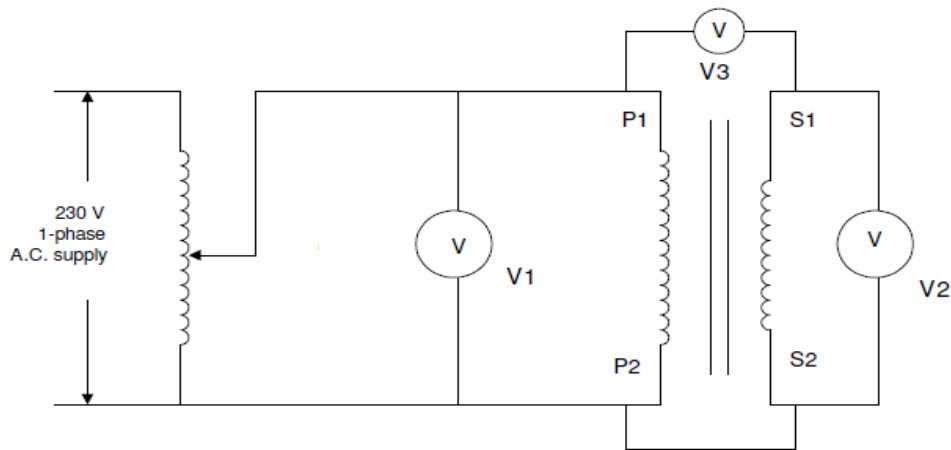

Figure-1
- 1) Make the connections as shown in Figure-1.